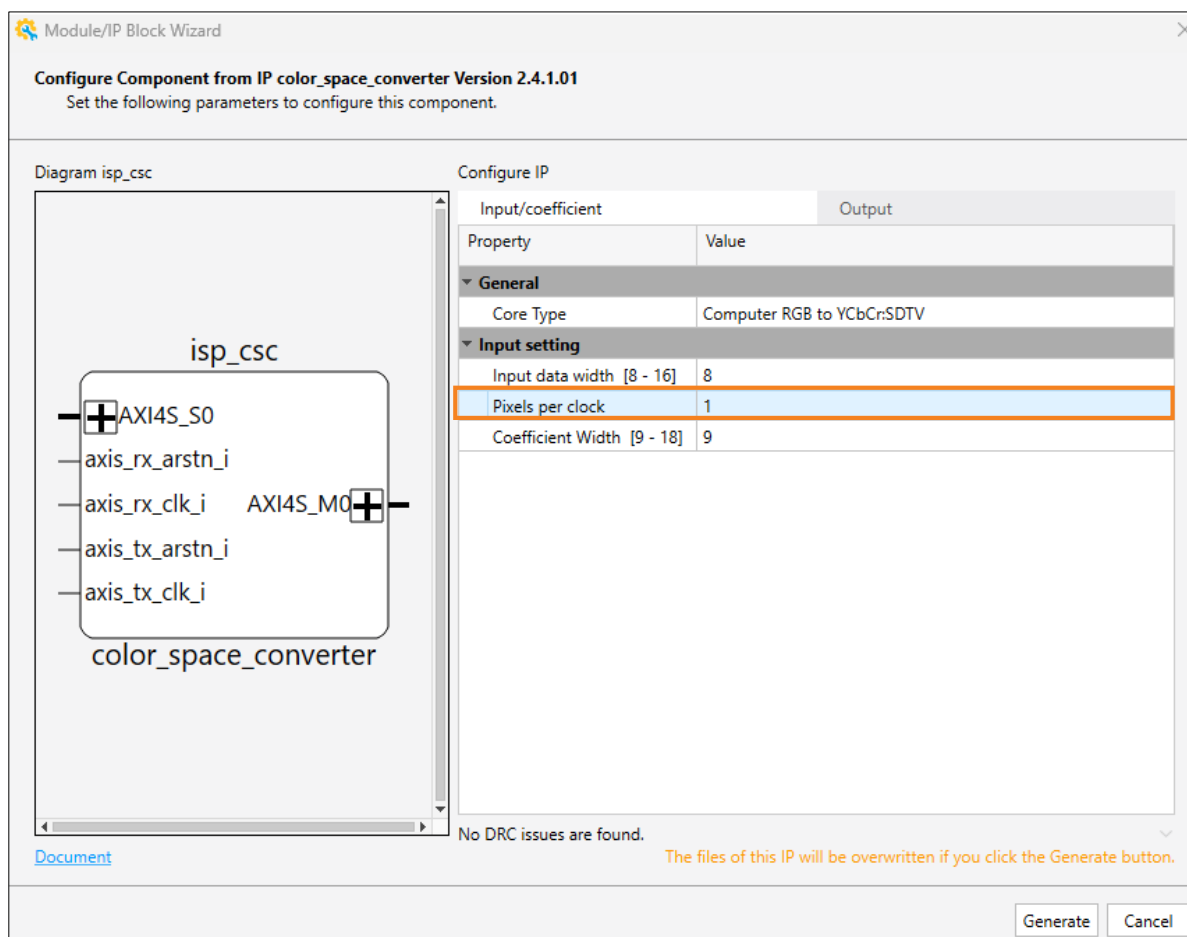

Figure 7.24. Color Space Converter Configuration
2. Under the **Input setting**, set the **Pixels per clock** to 1 (Figure 7.24).